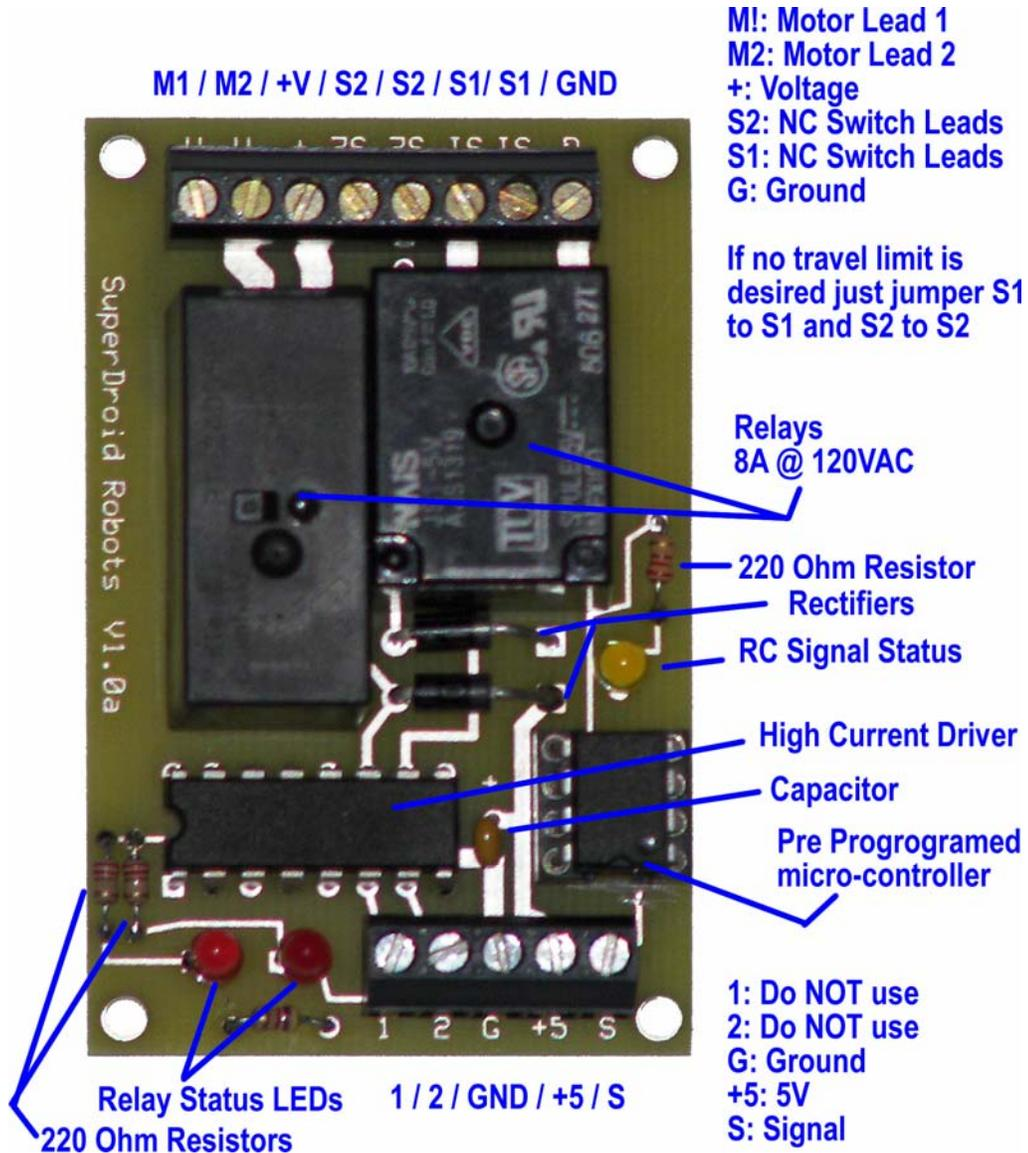

Figure 8: DPDT and SPDT RC Switch Relay Board
1. Start by laying the board out in front of you. The Label should be on the left topside. Refer to Figure 8.
2. Insert all the LEDs as shown in Figure 8. The short leg of the LED should go into the square pad. (they will not work if put in the other way).
3. Insert all the resistors as shown in Figure 8. Use an ohm meter or refer to the color banding to determine the values of the resistors. The orientation of the resistor is not important.
5. Insert the capacitor as shown in Figure 8. Orientation is not important.
6. Insert the 8 pin IC socket. The orientation is important. The notch should be towards the bottom of the board so pin one is in the square hole. Refer to figure 8.
7. Install the Screw Terminals (if provided) as shown in Figure 8.
8. Insert the Relays as shown in Figure 8.
9. Insert the high current driver IC. The orientation is important. The chip will be shorted and will not work if put in wrong. Pin one goes in the square pad hole such that the notch on the chip is closest to the label on the board. Refer to Figure 8.